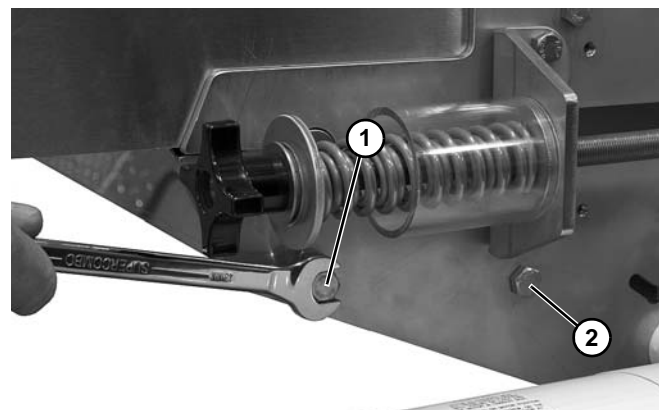

Figure 54
8. Remove screw (**Figure 54, item 1**) from each side of the center drive from the idler guard assembly.
9. Loosen screw (**Figure 54, item 2**) on each side of the center drive.